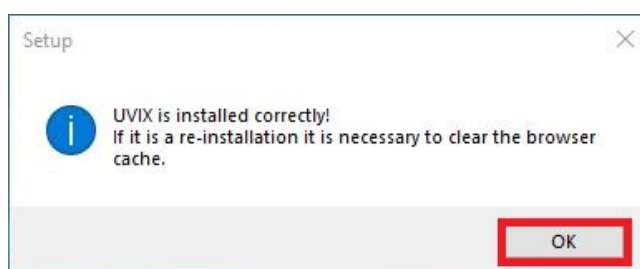

Figure 4.10: End of installation
10. Click "Ok" and after the restart, remember to clear the browser cache (browsing history), as shown in Figure 4.10.